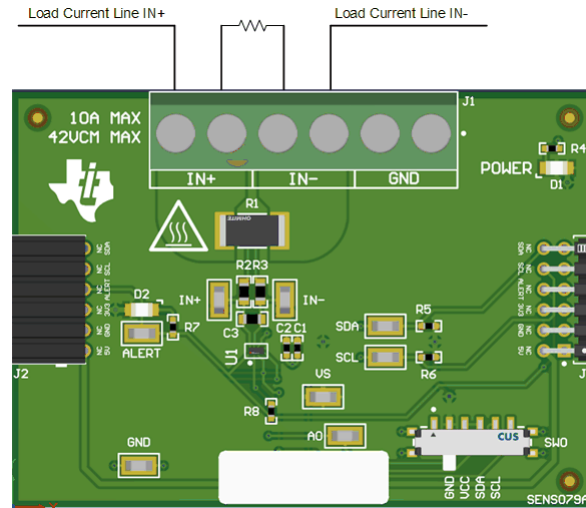

Figure 4-16. IN+ and IN– Wiring With a Shunt Resistor
- b. Connect an external shunt across the IN+ and IN– terminals of J1, preferably across pins 4 and 5 (see Figure 4-16).